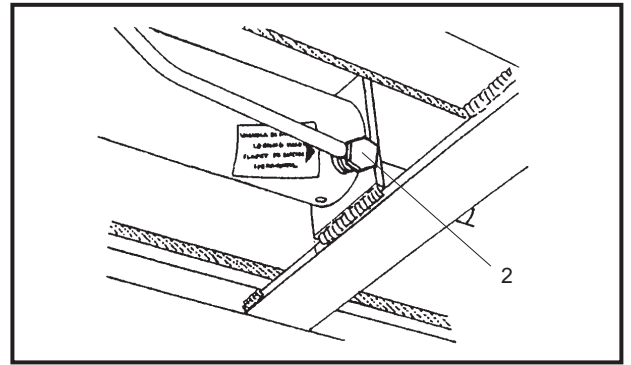

Fig.24 Cylinder locking valve
- If one or more hoses in the hydraulic circuit should break, a cylinder locking valve will operate (Pos.2, fig.24).